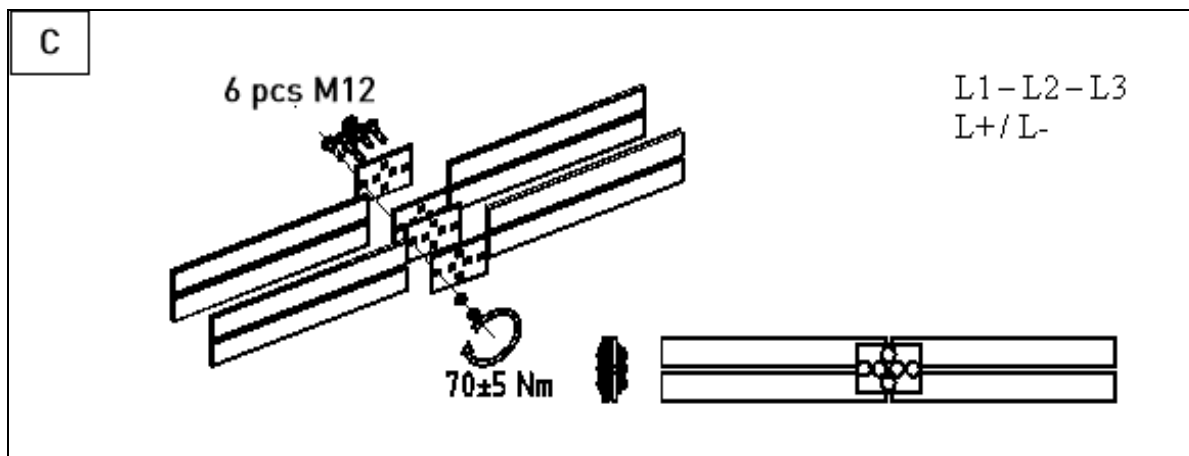

Figure 8
- C) Connect the main busbars, see Figure 8